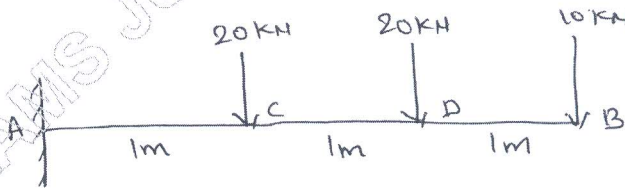

Fig. Q3
b. Draw SFD and BMD for a Cantilever beam shown in Fig. Q3. (14 Marks)